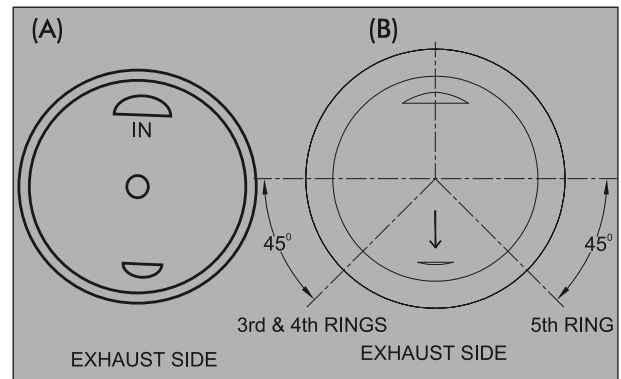

Fig. 3.144
- Take the piston and rings. First, assemble the separator oil ring on the piston oil ring groove, keep the open ends towards exhaust side of the piston at 45 degree to the left from the centre (B). (Fig. 3.144)
**Note:** Assemble the separator oil ring in such a way to ensure its triangle shaped end (Fig. 3.144) (B) facing upward (triangle facing towards piston top).
- Assemble the oil ring (bottom) keeping its open end gap towards exhaust side of the piston at 45 degree to the right from the centre (B). (Fig. 3.144)
- Assemble the oil ring (top) keeping its open end gap towards exhaust side of the piston at 45 degree to the left from the centre (B). (Fig. 3.144)